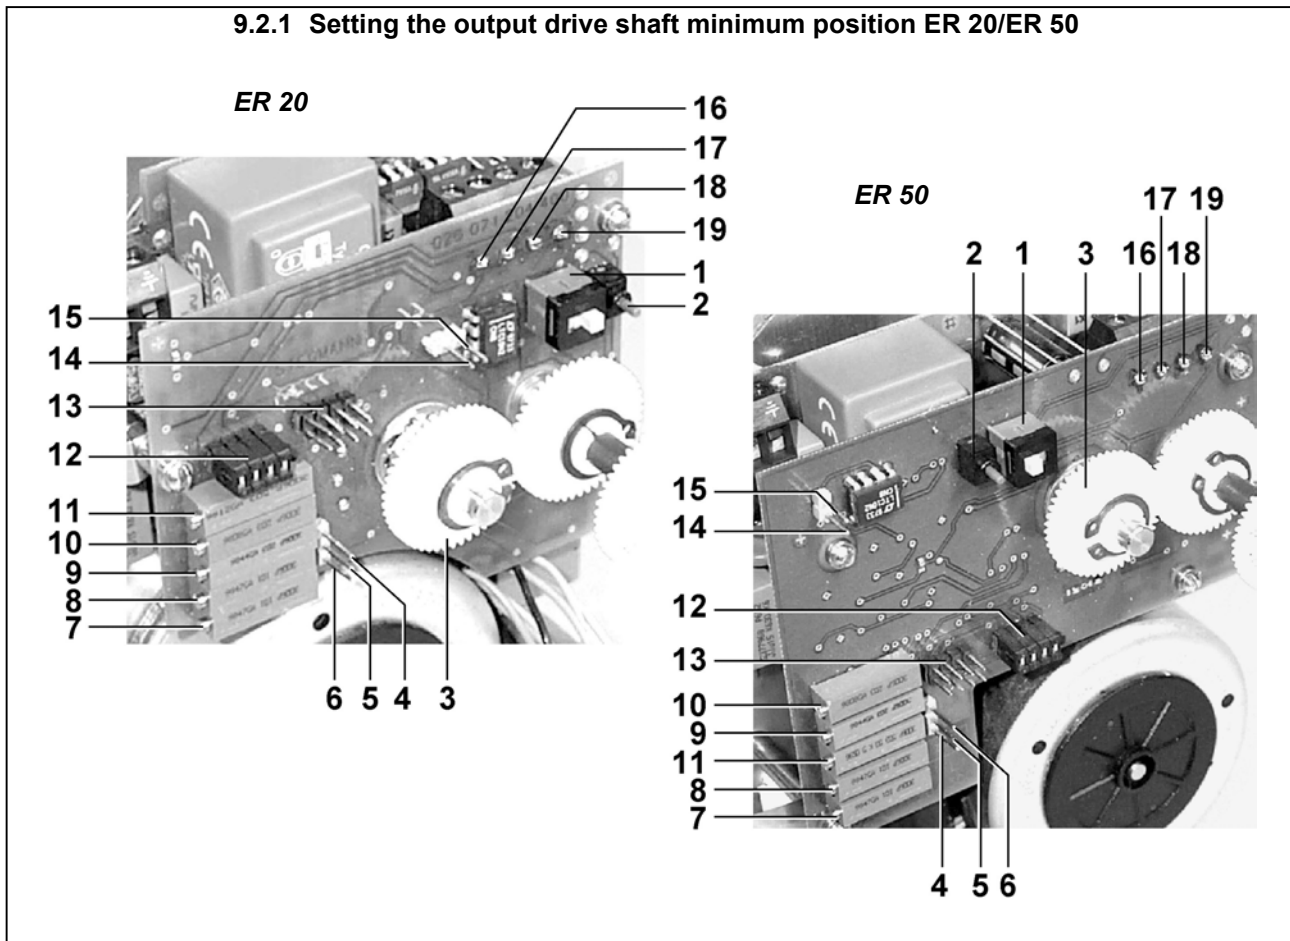

Fig. 9-1 Position controller ER 20/ER 50 - Control circuit board
- Please refer to Figure 9-1.
- The switch S1 (1) must be in the manual operation position.
- a **voltage interface** drive variant, connect a voltmeter to the terminal strip X2-3 and X2-4 (18 + 19). Terminal (19) is the earth terminal.
- is fitted to position J1 (12), rotate potentiometer P6 (7) until the instrument indicates 4 mA or 2 V,
- is fitted to position J2 (13), the instrument shows 0.0X mA or 0.0X V.
- Press the rocker switch S2 (2)
- is fitted to position J1 (12), rotate potentiometer P3 (10) until the instrument indicates 20 mA or 10 V,
- is fitted to position J2 (13), rotate potentiometer P4 (9) until the instrument indicates 20 mA or 10 V.
- Slide the switch S1(1) in to the **left hand** position in the case of ER 20, and into the **right hand** position in the case of ER 50 (automatic operation).
- a voltage **interface** drive variant, connect a voltmeter to the terminal strip X2-3 and X2-4 (18 and 19). Terminal (19) is the earth terminal.
- Slide the switch S1 (item 1, Figure 9-1) into the **right-hand** in the case of ER 20, and into the **left-hand** position in the case of ER 50 (manual operation).
- Press the rocker switch S2 (item 2, Figure 9-1)
- Slide the switch S1 (item 1, Figure 9-1) back into the automatic operation position.
- the switch S1 (item 1, Figure 9-1) is in the **left-hand** position in the case of ER 20, and in the **right-hand** position in the case of ER 50 (automatic operation).
- the jumper is correctly fitted on the right-hand row of pins J1 or J2 (item 12 or 13, Figure 9-1).